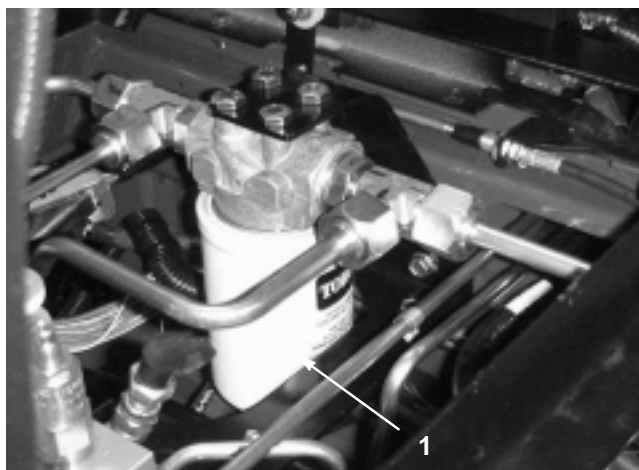

Figure 41
2. Clean the area around the filter mounting area. Place a drain pan under the filter and remove the filter (Fig. 41 & 42).